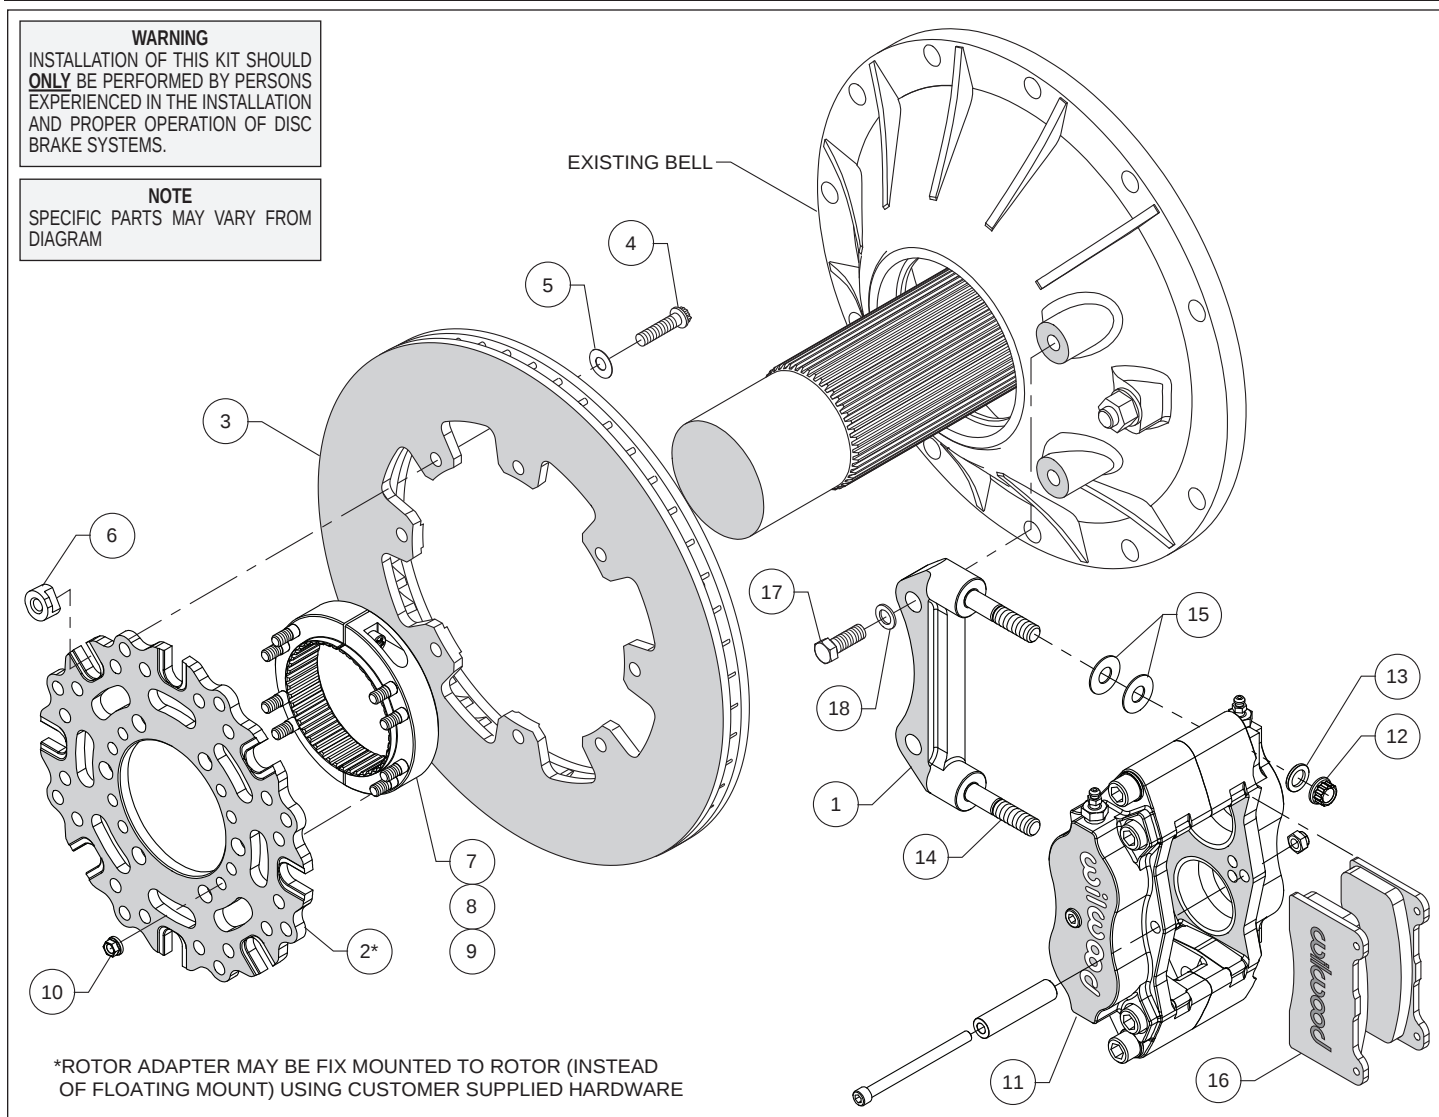

Figure 1. Typical Installation Configuration
- Orient the caliper mount bracket (1) as shown in Figure 1 and install using bolts (17) and washers (18). Temporarily tighten the mounting bolts. **NOTE:** The bracket must fit squarely against the mount bosses on the bell. Inspect for interference from casting irregularities, machining ridges, burrs, etc. Remove the bracket mounting bolts one at a time, apply red *Loctite*® 271 to the threads, and torque to 60 ft-lb.
- Orient the rotor adapter (2) and the rotor (3), as shown in Figure 1, and attach using bolts (4), washers (5), and t-nuts (6), Figure 1. Apply red *Loctite*® 271 to the bolt threads before installing. Finger tighten. After all t-nuts have been installed, torque bolts in an alternating sequence to 220 **in-lbs**. Please refer to Wilwood's data sheet DS-669 (available at www.wilwood.com/Pdf/DataSheets/ds669.pdf) for complete t-nut bolt kit installation instructions. **NOTE:** Rotor adapter may be fix mounted to rotor (instead of floating mount) using customer supplied hardware.
- Orient the axle clamp assembly (7, 8 and 9, pre-assembled) as shown in Figure 1 and install onto the rotor adapter (2) using nuts (10). Tighten nuts part way while still allowing clamp-to-rotor movement. The nuts will be torqued later, after aligning the rotor. **NOTE:** *The axle clamp should be positioned inside of the rotor as shown in Figure 1, not offset, or outside of the rotor adapter.*
- Lubricate the caliper mounting studs (14) with lightweight oil. Initially place two .035" thick shims (15) on each stud as shown in Figure 1. Mount the caliper (11) onto the bracket (1) using lock nuts (12) and washers (13), Figure 1. Temporarily tighten the lock nuts and view the rotor through the top opening of the caliper. The rotor should be centered in the caliper. If not, slide the rotor/adapter assembly on the axle until the rotor is centered in the caliper. Tighten the clamp bolts (9) first, locking the clamp to the axle. Torque nuts (10) to **140 in-lbs.**
- Remove the caliper center bridge pad retainer bolt, nut, and tube from the caliper. Insert the brake pads (16) into the caliper, with the friction material facing the rotor. Check that the top of the brake pad is flush with the outside diameter of the rotor. If not, adjust by adding or subtracting shims (15) between the caliper and the bracket. After the caliper pad height is set, torque the caliper lock nuts (12) to 30 ft-lb. Secure the brake pads in place with the center bridge pad retainer tube, bolt, and locknut. The locknut should be snug without play in the bolt or tube. Be cautious not to over tighten.